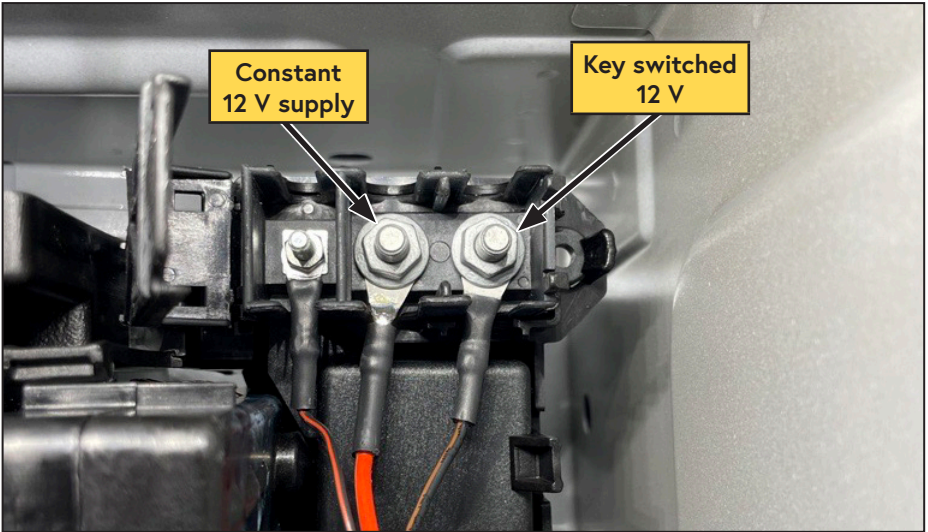

Figure 45 — Tie into vehicle power
- Connect the other end of the fuse holder to the terminal that holds the OEM with red wire with orange stripe (Figure 45).
- Connect the orange wire from the control module, and the red wire from the CAN converter, to the terminal that the OEM black wire with brown stripe is attached to (Figure 45).